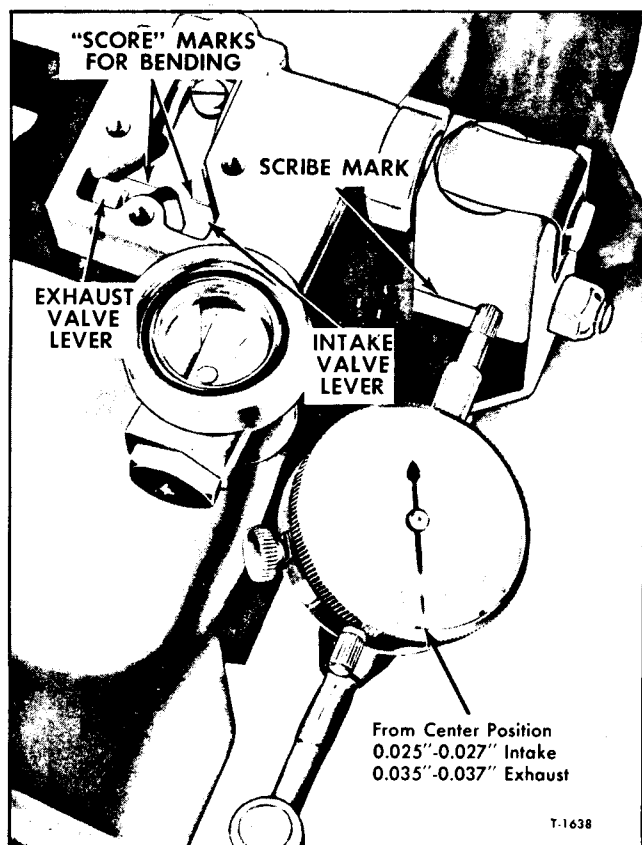

Figure 33—Method of Adjusting Air Valve Lever Gaps
5. Place control valve assembly in vise as shown in Figure 33.
4. Starting at true center position, slowly move lever to where air intake valve just begins to open. Listen for escaping air. Note reading on dial at this point. Reading should be 0.025" to 0.027" from lever center position. Bend lever to correct setting. Refer to Figure 33.
5. Return overtravel lever to center position. Slowly move lever to exhaust side and at same time note the vacuum gauge reading. When vacuum just begins to fall off, the exhaust valve has opened. Valve should open when overtravel lever is moved 0.035" to 0.037" from center position. On both front and rear control valves, bend lever to correct setting. Refer to Figure 33.
b. Bend lever to correct setting. Refer to Figure 33.